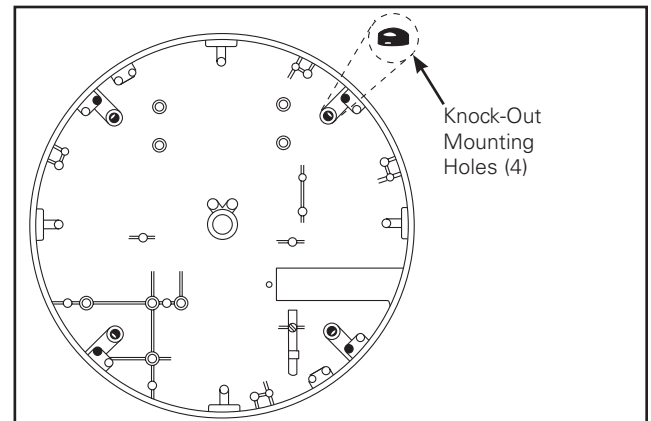

Figure 1.
4. Knock-out the four 5/16" mounting holes in the ballast housing. They should be knocked-out from the inside (Figure 1).